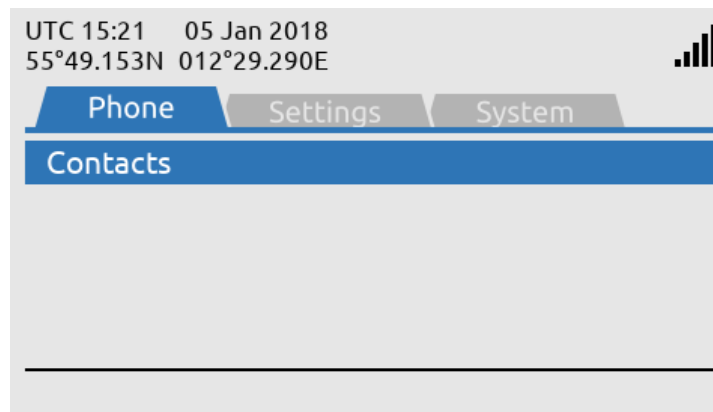

Figure 20: LT-3110 Control Unit - UI display (main menu)
- **MENU button:** The MENU button is used to open the main menu, as illustrated in Figure 20. The BACK, arrows, and ENTER buttons are used to navigate in the menu layout. Press the MENU button to exit the menu from anywhere in the menu tree (instead of multiple BACK button presses).
The main menu is accessed by pressing the MENU button on the keypad. The user will be presented with a layout as illustrated in Figure 20.